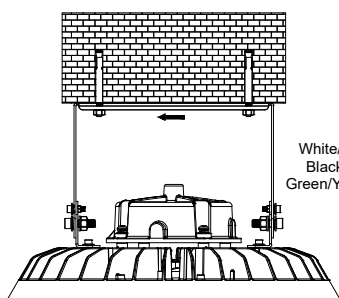

Figure 7
④ Fasten the mounting bracket with explosive screws (Figure 7)